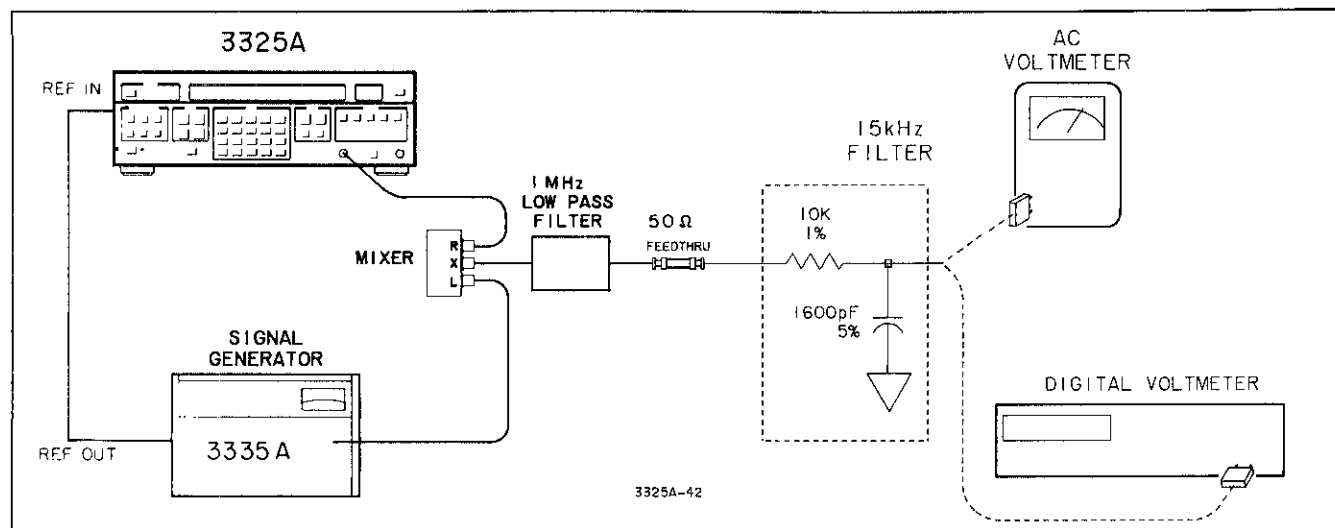

Figure 4-3. Integrated Phase Noise Test
- Capacitor: 1600 pF \pm 5% (-hp- Part No. 0160-2223) See Figure 4-3
a. Connect the equipment as shown in Figure 4-3, connecting the 15kHz noise equivalent filter output to the ac voltmeter. Phase lock the 3325A and the signal generator together.